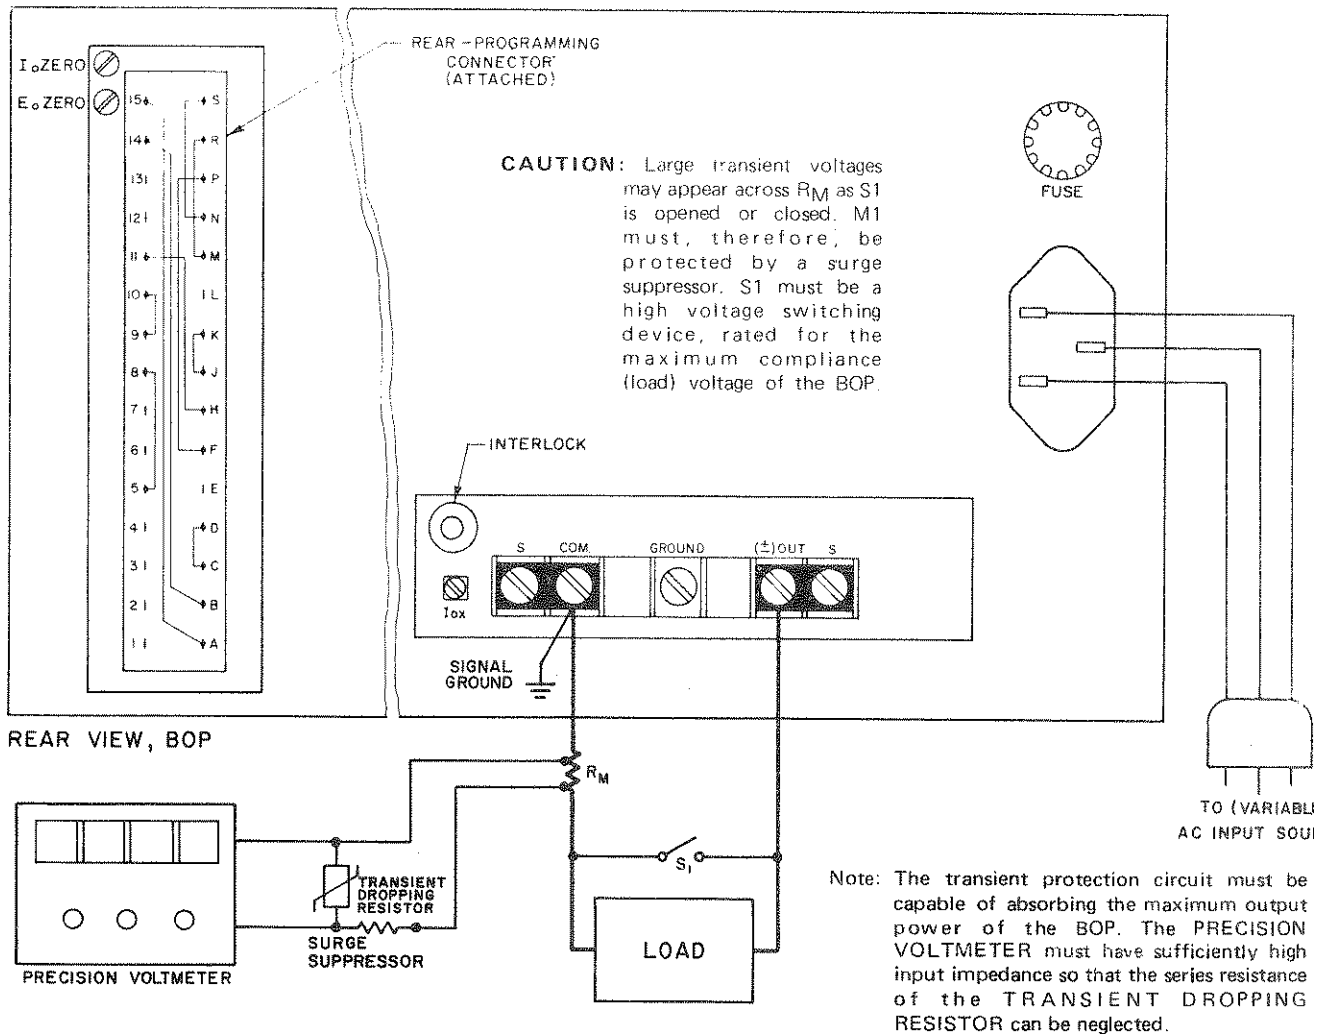

FIG. 5-4 OUTPUT EFFECT MEASUREMENTS, CURRENT CONTROL CHANNEL (TEST CIRCUIT)
- 1) Set-up a test circuit similar to that shown in FIG. 5-4.
5-24 **OUTPUT EFFECT MEASUREMENTS, CURRENT CONTROL CHANNEL.** The output effects due to a-c source or d-c load variations in the current mode can be measured with the circuit shown in FIG. 5-4. These output effects ("SOURCE" and "LOAD" EFFECT) are defined as the amount of output current change resulting from the specified variation in a-c source voltage, or from a change in load resistance. (See Section 1, Table 1-2). The output effects can be expressed as an absolute change (ΔI_O), or as a percentage of the total output current (I_O):
5-25 PROCEDURE (Refer to FIG. 5-4)